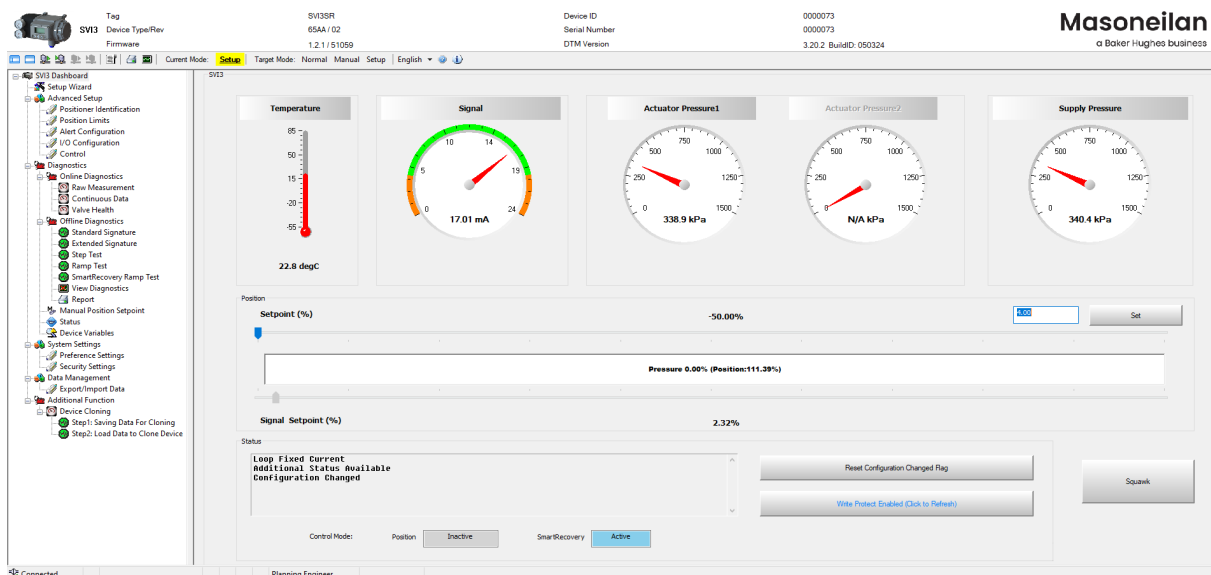

Figure 107 - ValVue 3 Main Screen
1. Open ValVue 3 and the SVI3 DTM main screen appears (Figure 107).
1. Open ValVue 3 and the main screen appears (Figure 107).